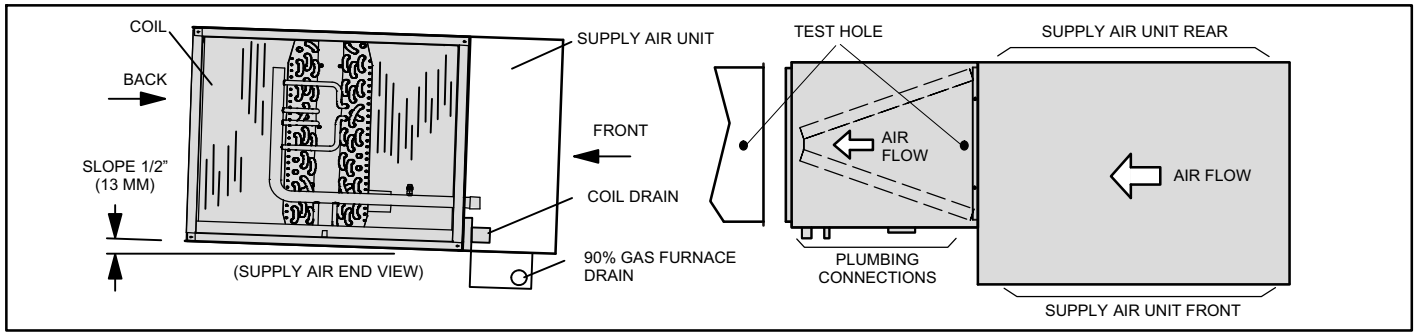

Figure 2. Left-Hand Air Discharge
3. **Left-Hand and Right-Hand Discharge**—The coil must have a 1/2" slope from the rear of the cabinet to the drain. Position the coil adjacent to the furnace cabinet and align the six screw clearance holes in the coil casing with the furnace engagement holes. Use six field-provided #8 X 1" screws to secure the coil casing to the furnace (see figures 2 and 3).